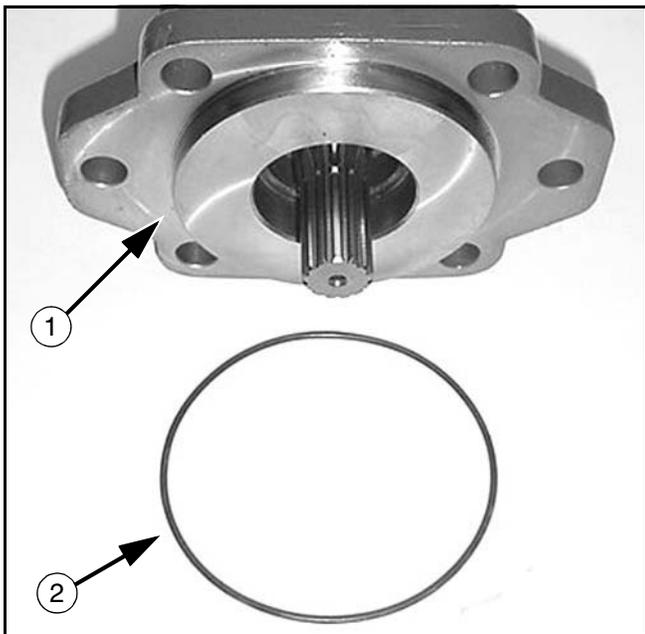

Figure 14. HA15, HA20 Motor
3. Install the O-ring (2) onto the motor pilot (1) as shown in Figure 14.